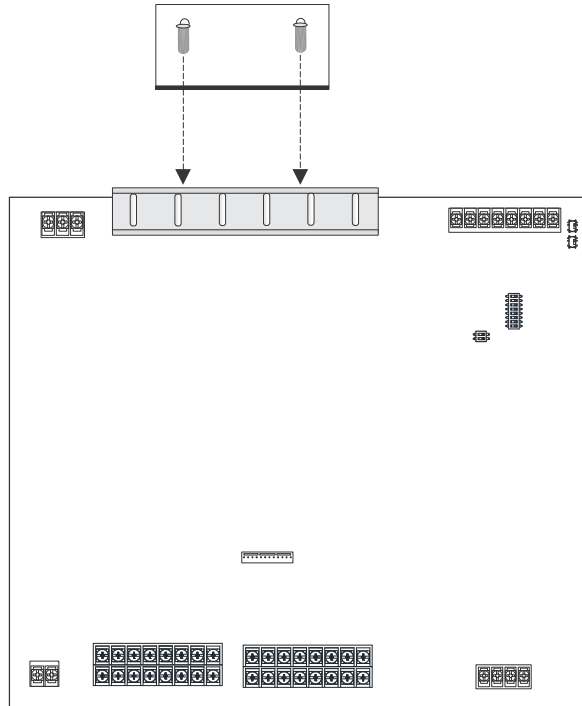

Figure 4.52 ECS-DUAL50WBD Mounting Bracket
3. Secure the supplied “L-shaped” bracket to the top mounting bracket on the ECS-DUAL50WBD with the two mounting screws. See Figure 4.52.